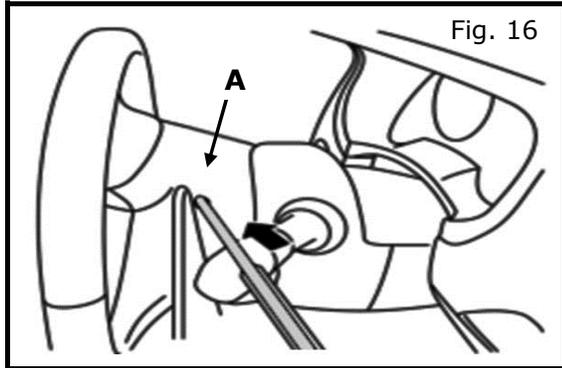

Fig. 16
- a) Locate the retaining spring access hole (A) in the steering wheel rear finisher, as shown and insert a suitable 5.0mm diameter tool of appropriate length to engage the spring as shown in Fig. 16.